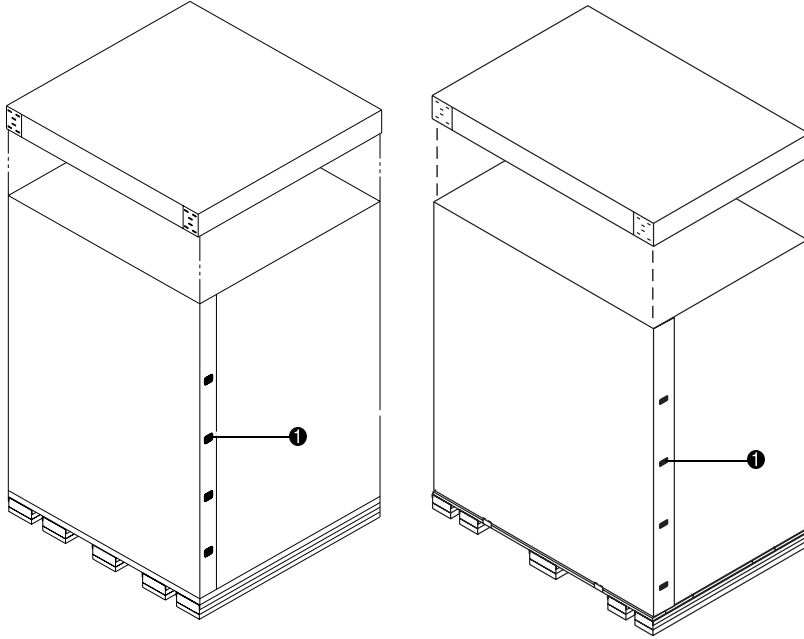

Figure 4-3. Removing the box top cover
4. Lift the top cover straight up and off the shipping container (see Figure 4-3).
5. Pull the eight retaining clips, on opposing corners of the shipping container, to their open position (❶ Figure 4-3).